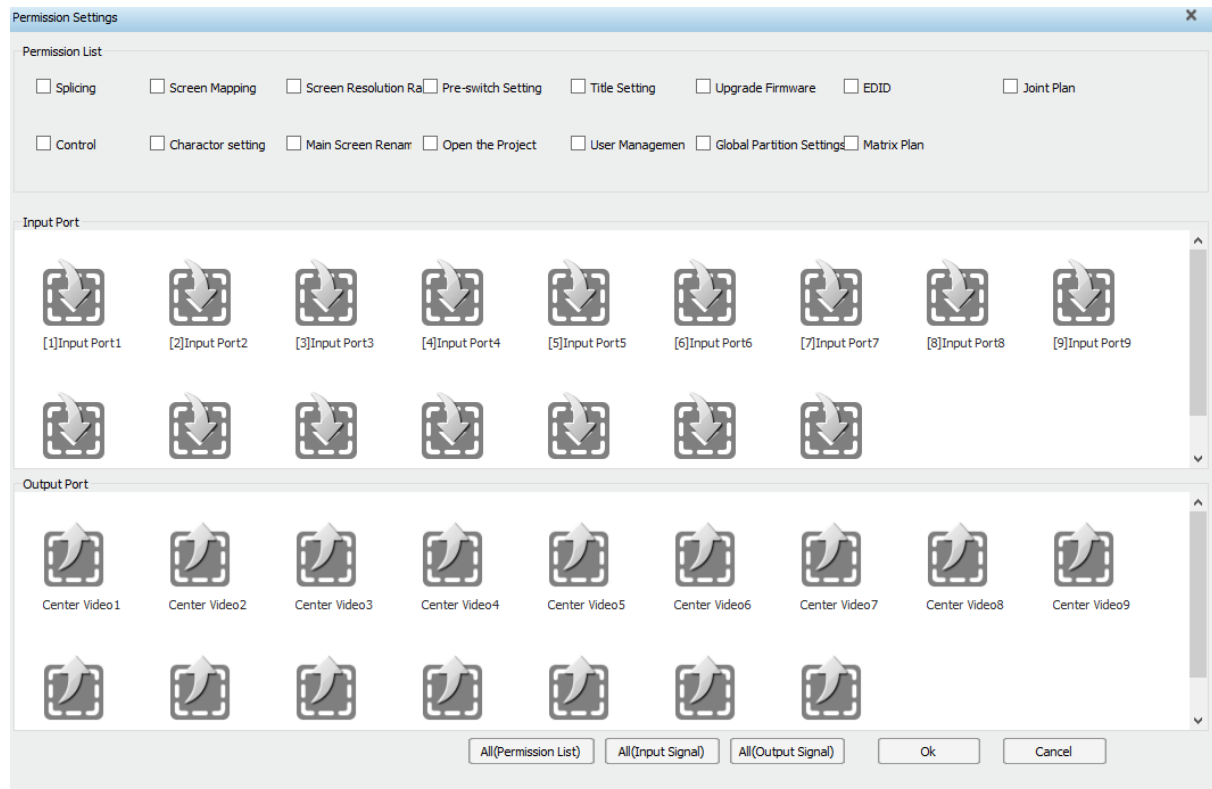

Figure 7: Permission setting screen
- Firstly highlight the desired user from the user list (as detailed in section 2.1) and click on the Jurisdiction button, which will open the Permission Settings window as shown above in figure 7